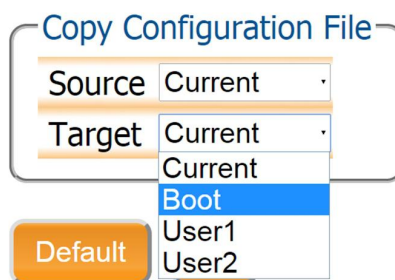

Figure 6-8: Select 'Boot' as Target
3. Select 'Boot' in the Target drop down box as shown in Figure 6-8